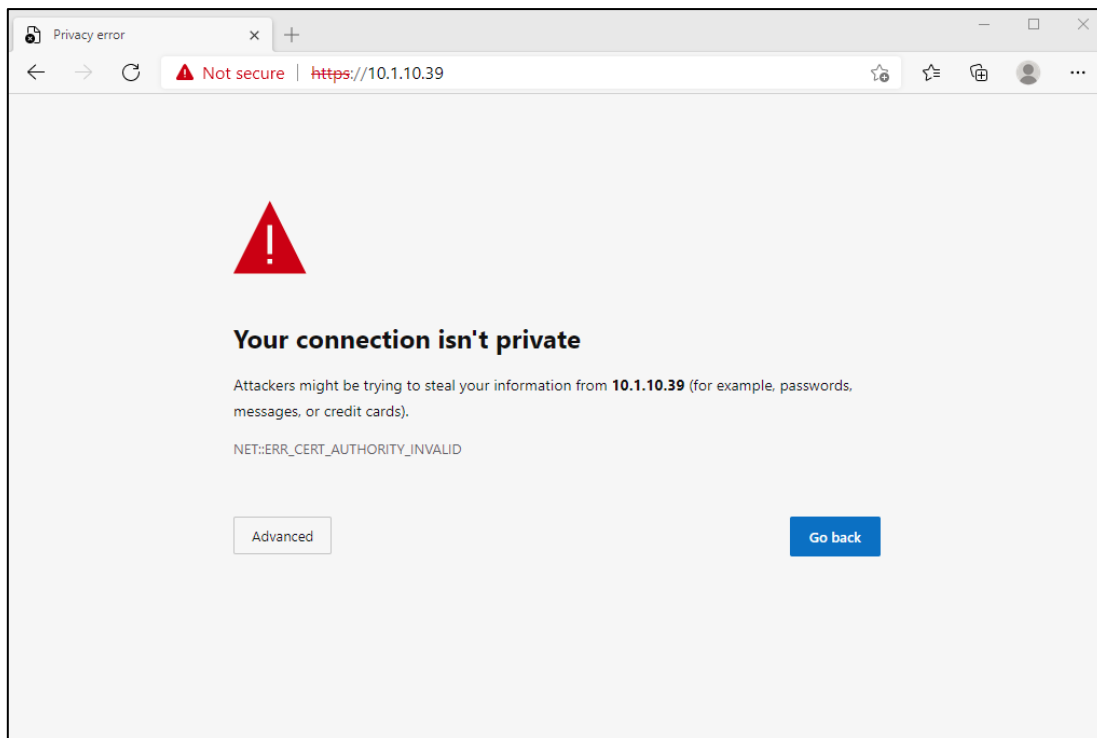

Figure 109: Accessing the built-in web server ("This site is not secure").
4. The browser might show you a warning about an invalid web server certificate, as illustrated in Figure 109. Make sure, that you have typed in the correct IP address.